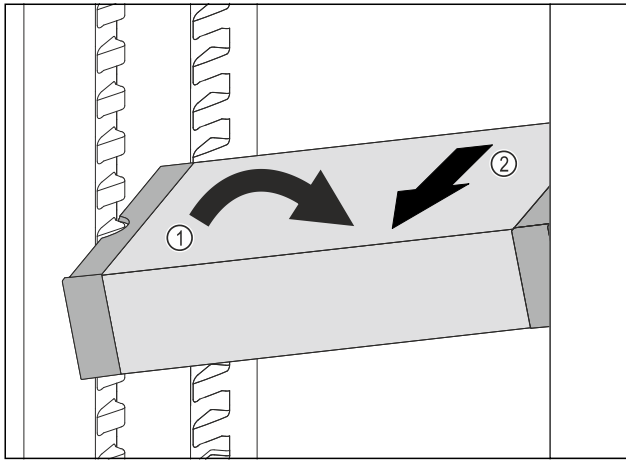

Fig. 141
- Set VarioSafe in refrigerator compartment at an angle. Fig. 141 (1)
- Take VarioSafe out to the front. Fig. 141 (2)